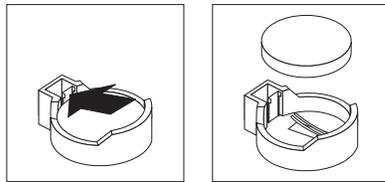

Figure 22. Removing the battery
- a. Use a fingernail to press the top of the battery clip away from the battery (see Figure 22). The battery pops up when released.